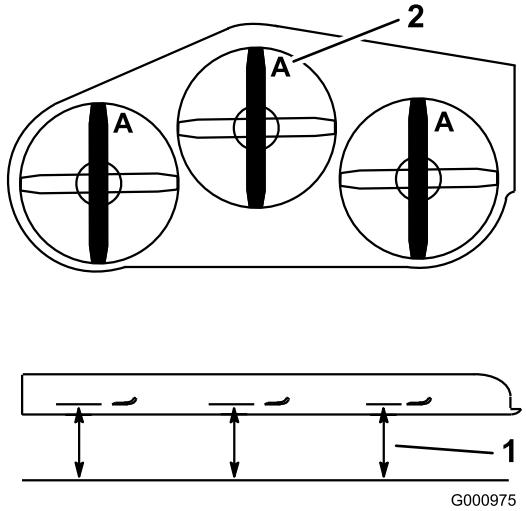

Figure 78
4. Measure from a level surface to the cutting edge, position A, of the blades (Figure 78).